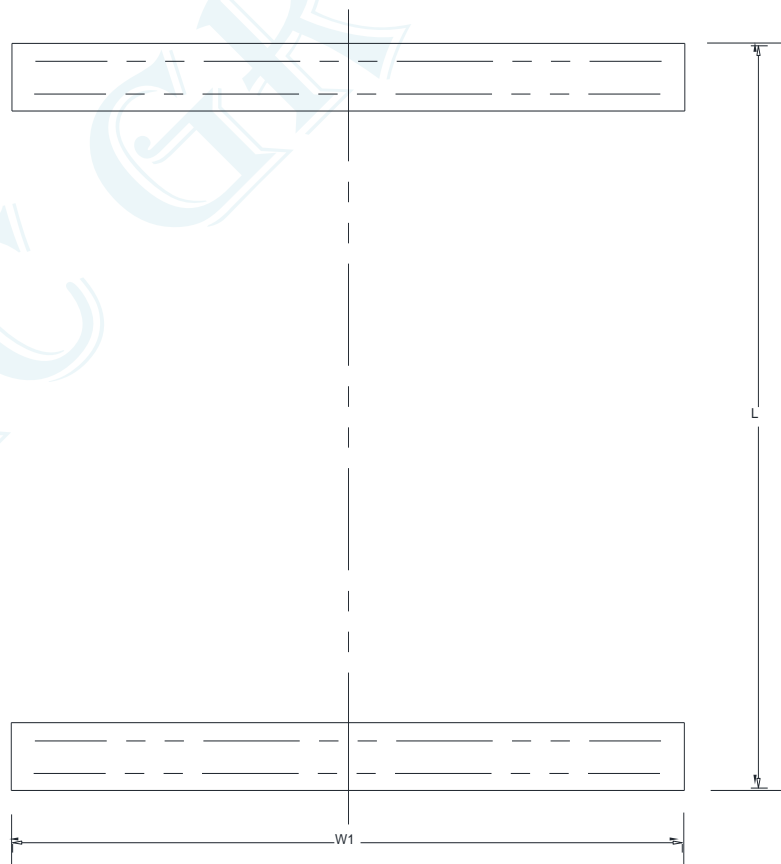

Figure 3/1 Foundation Drawing of Switchgear Installation
3.2 Erection of Switchgear (Figure 3/2 to 3/3)
- 3.2.1 The foundation dimension and erection dimension of switchgear installation are shown in Figure 3/2 to 3/3.